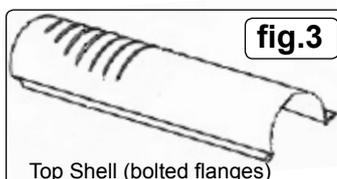

fig.3
6.8. **FAN** Fan blades (fig.13) should be cleaned at least once per heating season, depending on environment. Remove the outer case top shell (fig.3) and clean the fan blades with a damp cloth. Dry fan thoroughly using compressed air.